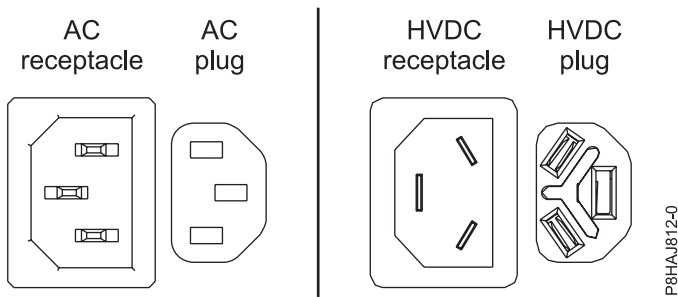
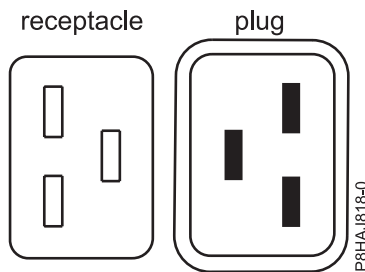

Figure 248. AC and HVDC connectors
Figure 249. Connectors for the 8408-44E system
Figure 248 shows the supported alternate current (AC) and high voltage direct current (HVDC) connectors. Figure 249 and Figure 250 show the supported connectors and power distribution unit (PDU) for 8408-44E.